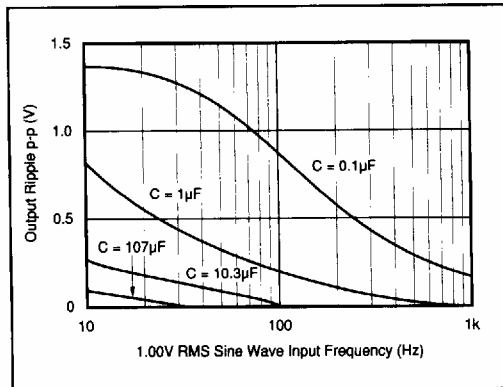
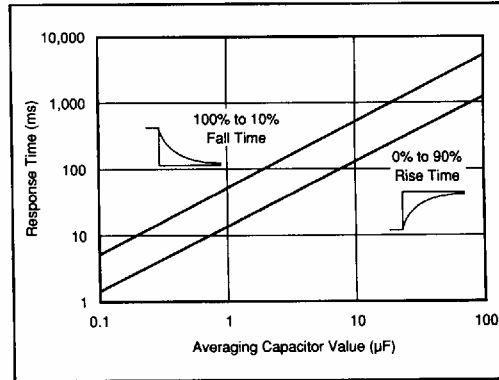

FIGURE 2. Output Ripple Magnitude vs Input Signal Frequency.
FIGURE 3. Response Time vs Value of Averaging Capacitor.
NOTES: (1) After standard trim procedure (see below). (2) Model 4341 will convert DC inputs. Lower frequency AC inputs require a large value of averaging capacitor to minimize ripple at output. (see Figure 2).
Figures 2 and 3 show the effects of the external filter capacitor on ripple magnitude and response time. As the frequency of the input approaches DC, the 4341 begins to act like a full wave rectifier such that the output is the absolute value of the input. While the 4341 will accurately convert DC input voltages, the averaging capacitor must be made very large to minimize ripple at low frequencies.
A single-pole low-pass RC filter provides the averaging function. The time constant is  $1/2 RC$  where  $R$  is  $10k\Omega$  when the 4341 is adjusted for unity gain. To select the best value of  $C$ , make a tradeoff between output ripple and response time. Figure 2 shows the ripple magnitude vs frequency for several typical values of capacitor. Response time vs capacitor value is shown in Figure 3. (Note that rise times and fall times are different for the same value of capacitor).